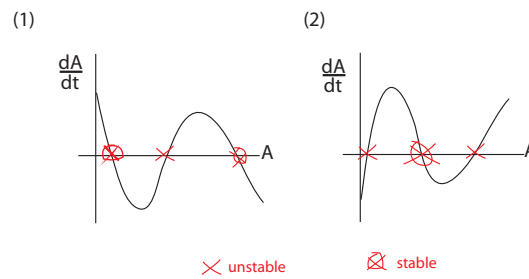

Figure 1: Schematic for questions 1.1.
- 1.1 Consider the plots in figure 1. Identify all critical points with an x. Put a circle around the x for each critical point if it is stable. (3 pts)